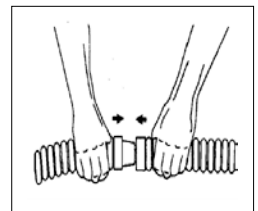

Figure 4
There are eleven (11) 81 cm connector hoses and one (1) 81 cm leader hose with a gray cuff. Connect the special cleaner hose sections together by pushing and twisting the tapered male connector end of each hose firmly into the female end of the adjacent hose sections (See Fig. 4). Depending on the size and shape of your pool, all hose sections might not be used. However, **the leader hose MUST ALWAYS be used or your cleaner will not operate properly.** It is not necessary to “Bottom Out” the connections, but they **MUST** be tight enough to prevent any air leaks. Wetting the hose ends will make it easier to connect the hose sections.